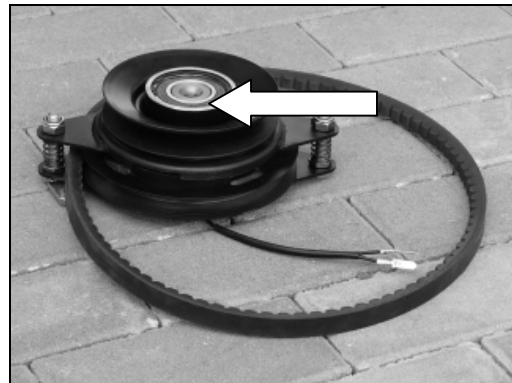

Fig. 54
- Unscrew the main clutch bolt 2 (while turning the clutch shaft, screw in the bolt, secure it with a nut from the front side of the clutch and whilst holding this loosen bolt 2) (Fig. 54)
- Remove the clutch (Fig. 54)